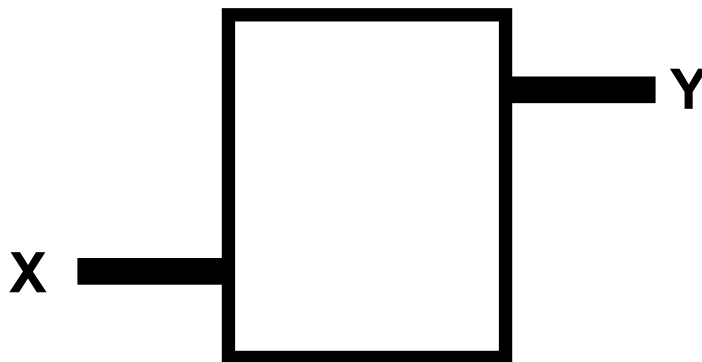

Fig. 16
- (e) Draw and complete the diagram given in fig 16 to show how lever Y move inwards the same distance as lever X., when X is pushed inwards.